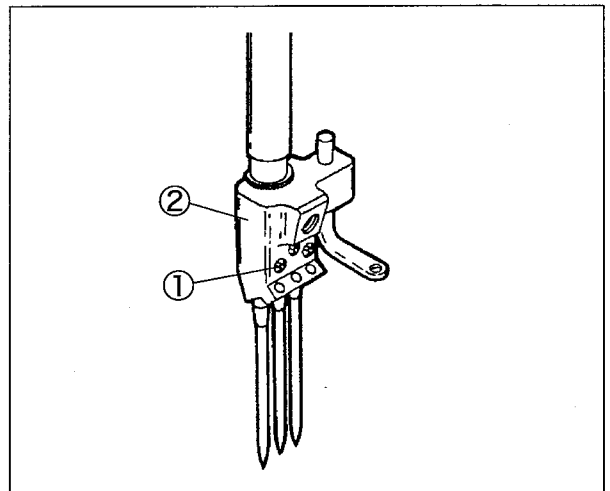
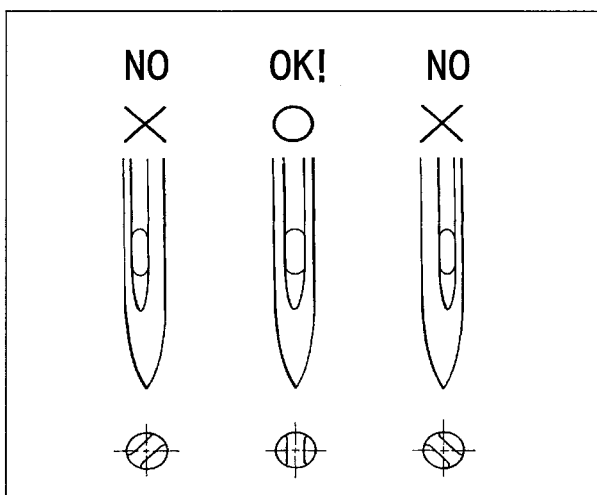

Fig. 21
Fig. 22
- (1) Loosen the screws① with a screwdriver. (Fig. 21)
- (2) Remove the old needle with a pair of tweezers.
- (3) Insert a new needle into the needle clamp② as far as it will go with facing its scarf to the right back. (Fig. 22, 23)
- (4) Tighten the screws① with a screwdriver.